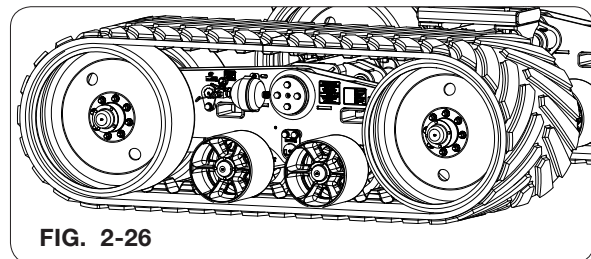

FIG. 2-26
1. Raise the right side of the cart with a safe lifting device rated for 20,000 lbs. (FIG. 2-26)